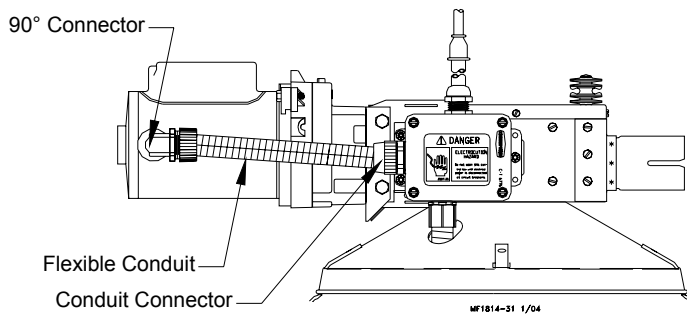

Figure 30. Conduit Installation
6. Single Phase: Install the 90 degree connector, flexible conduit, electrical wire, and conduit connector, see figure 30.